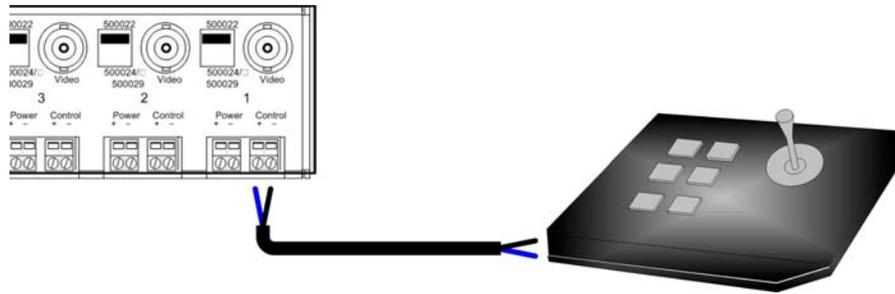

Figure 10: PTZ connection, Model 500130
10. If PTZ Control is to be transmitted to the camera, verify that the distance between the camera and the hub is within the distance specifications for sending PTZ control over twisted pair. Consult the PTZ equipment vendor for maximum distances. Please ensure that the port switch is set to Pass-Thru Mode (500022). When the port switch is set to Pass-Thru Mode (500022), one (1) twisted pair is used for PTZ control. For optimum results, it is recommended to use control protocols such as RS-422, RS-485 or Bi-phase. **Due to crosstalk issues, RS-232 is not recommended.**
11. Connect two (2) wires between the PTZ controller and the “Control” terminals on the hub (fig 10).